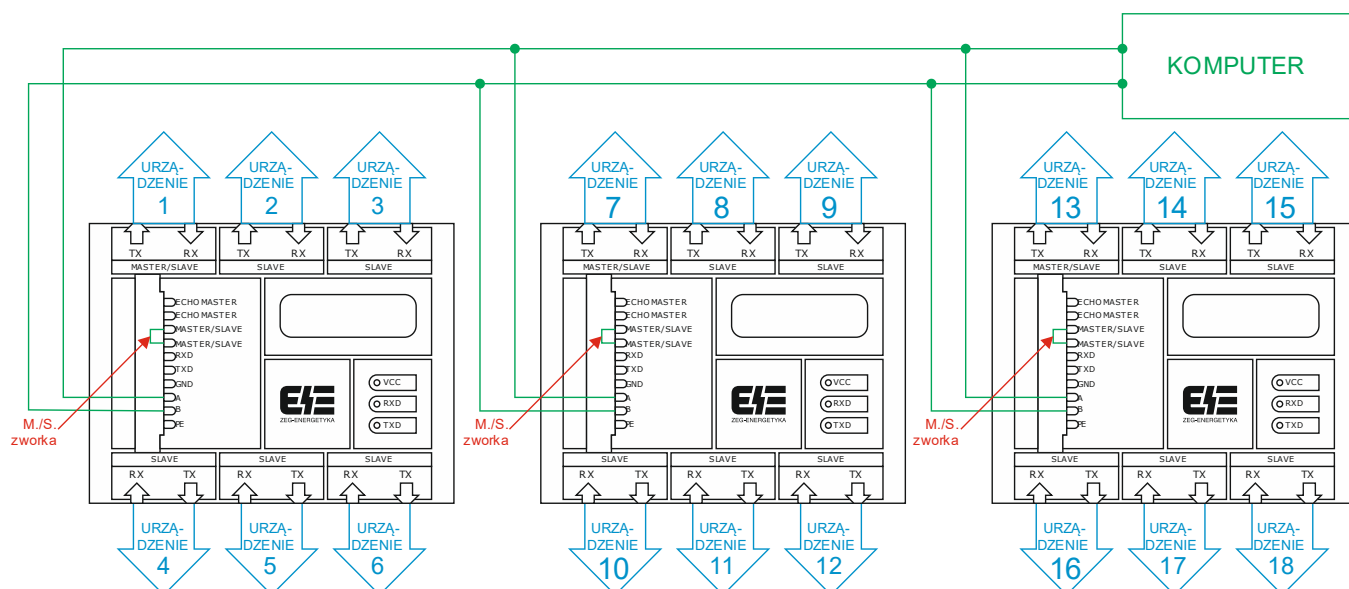

Fig. 4. Wiring diagram of OPG-6 devices connection in star loop with ECHO OFF using RS-485 MASTER port
- OPG-6 – MASTER port with ECHO OFF. Supervision system is connected by RS-485HD port. It is recommended to switch MASTER to port to SLAVE mode. Up to six SLAVE devices can be connected. In case of necessity to connect more of devices, connection should be performed according to fig. 4 connection diagram.